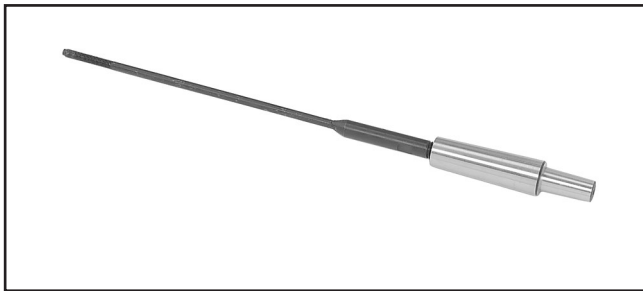

Figure 23. Drawbar threaded into the included drill chuck arbor.
2. Make sure the drawbar is firmly threaded into the tooling (**Figure 23**).